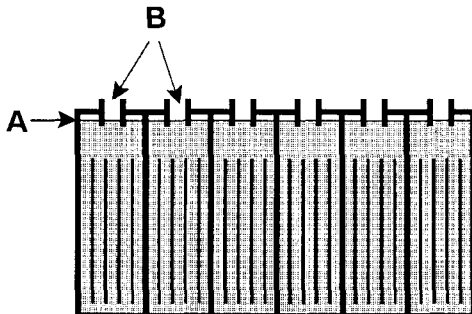

FIG. 27.
2. Each week **after** charging, check water level (A) in each battery cell of all batteries. Water level should reach bottom of sight tubes (B). If needed, add just enough distilled water to reach bottom of sight tubes. **DO NOT** overfill. (Figure 27)